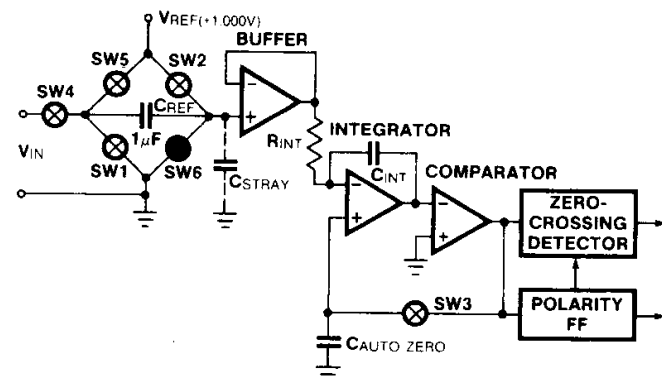

Figure 2C: Phase III + Deintegrate
3. Deintegrate Phase III Fig. 2C&D.